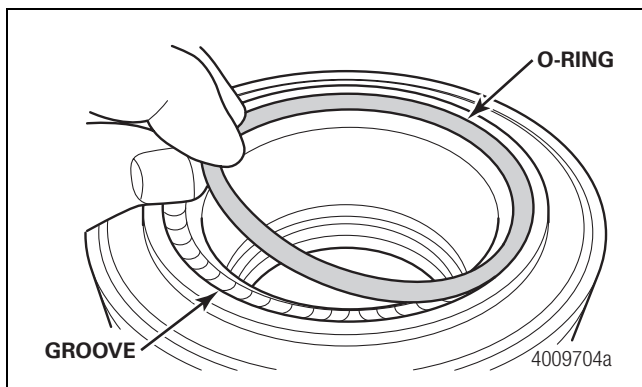
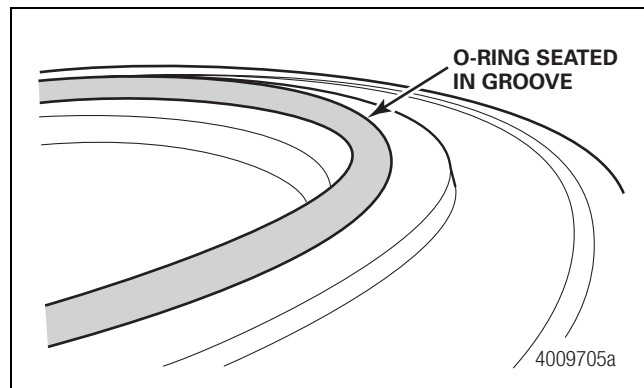

Figure 4.39
Figure 4.40
- If the O-ring is missing or comes loose during handling: Reinstall the O-ring on the hub. Hold the O-ring firm in one location in the machined groove. Using your fingers, lightly guide the O-ring around the groove until it is completely seated. Figure 4.39 and Figure 4.40.